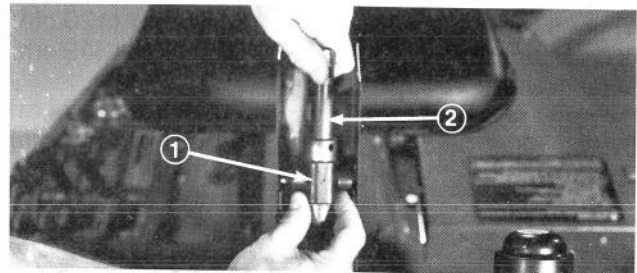

Figure 4
2. Grasp bearing assembly and twist shaft to raise bearing into approximate alignment with mount holes in steering column housing (Fig. 4).